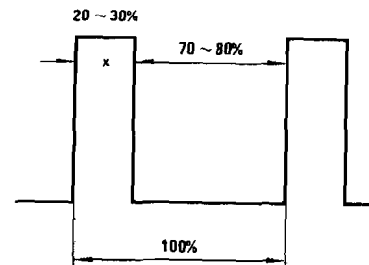

Fig. 8-14
Connect an oscilloscope to the test point on the Capstan Servo Amplifier PCB to monitor the waveform. Pull up the Pitch Control Knob to switch it on, rotate the knob fully CCW and adjust R102 on the Capstan Servo Amplifier PCB so that duty cycle of the waveform is as shown in Fig. 8-14.
The reason for maintaining this ratio is to guarantee that the PLL remains locked even if the capstan servo reference frequency changes by more than  $\pm 10\%$ . (PLL will not be locked if the waveform of Fig. 8-14 changes to a constant level.)
- a) Should the ratio  $x$ , in Fig. 8-14, become smaller when the pitch control knob is rotated CW, or in other words, when the capstan speed is raised, then rotate R102 CCW to increase  $x$ . Next, trim R101 on the Capstan Amplifier PCB in the CCW direction so that  $x$ , which was increased before, is made smaller, so that the duty ratio is as shown in Fig. 8-14.
- b) Contrary to the initial results in above a), if the ratio increases inverse to that in Fig. 8-14, then R102 is rotated CW to decrease  $x$ . Then, R101 is trimmed CW to spread  $x$  which was decreased before, so that the duty cycle will again be as shown in Fig. 8-14.